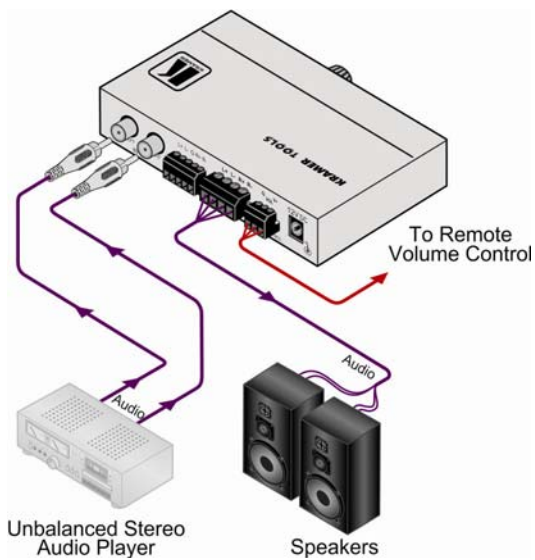

Figure 2: Connecting the 912 Power Amplifier
To connect the **912**, as illustrated in the example in Figure 2:
5. Connect the 12V DC power adapter to the **912** power socket and to the mains electricity (not shown in Figure 2).